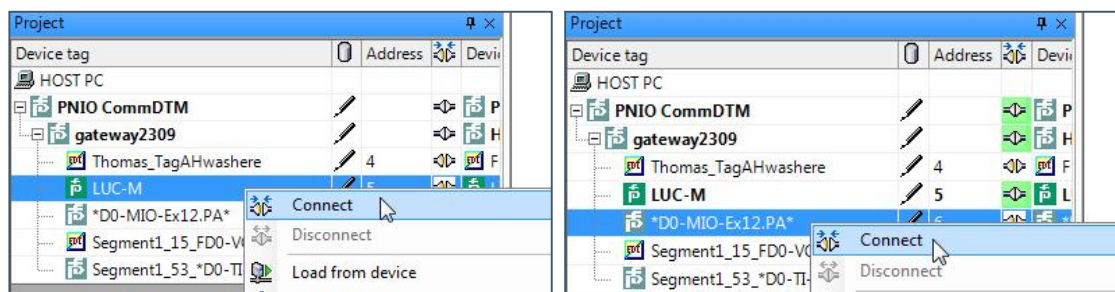

Figure 57: Connect the PROFIBUS PA devices
10) Right-click each device, then click **Connect** after one another to connect them to the PN IO via the gateway (see: Figure 57: Connect the PROFIBUS PA devices).